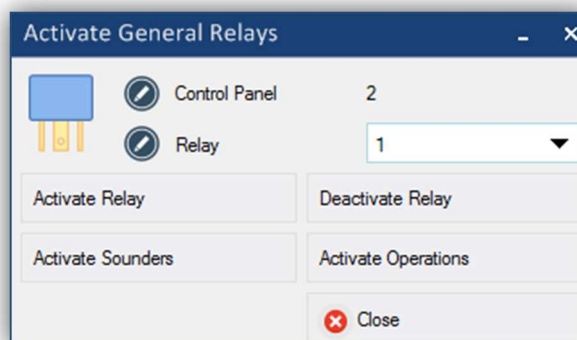

Figure 56. Menu to activate/deactivate logical relays in the control panel.
- The figure 56 shows the activate/deactivate menu of logical relays configured in the control panel. To enter, click on the **Activate relays** button .